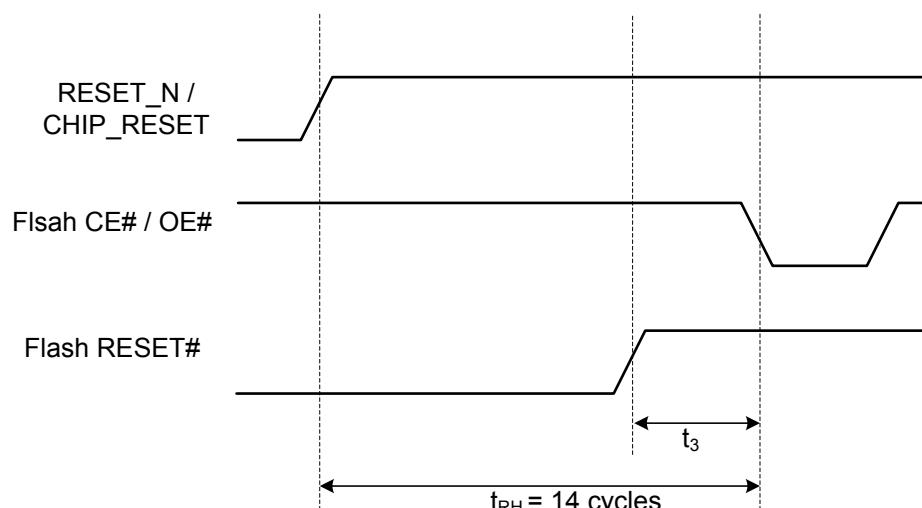

Figure 6. System Reset and Flash Reset
- Hard Reset: The system is in power-on state and receives a reset signal from the RESET_N pin. If Flash ROM could not be ready in 14 cycles, the system may malfunction due to an unknown instruction being fetched. The system designer should carefully handle this issue to prevent future mysterious bugs. The rule of thumb is to keep t_3 (refer to Figure 6) greater than t_{RH} . One simple approach is never to reset Flash ROM except via its own power-on-reset.